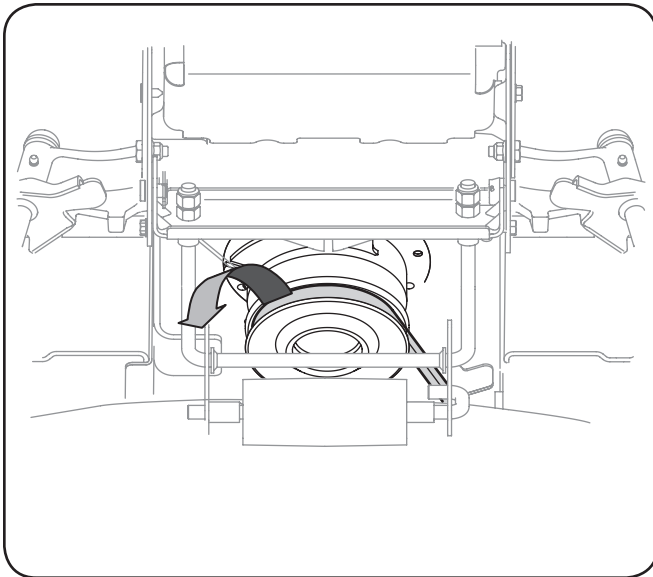

Figure 7-1
3. Remove the deck belt from around the tractor's electric PTO clutch. See Fig. 7-1.